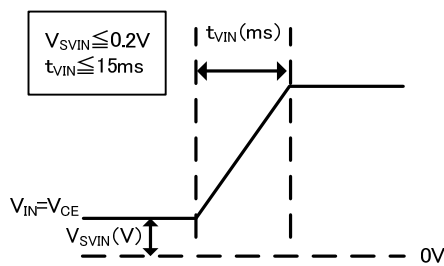

Figure 1. (Recommended for input wave form for  $V_{IN}=V_{CE}$ )
- As for power-on, when CE pin is used with connecting to  $V_{IN}$  pin,  $V_{IN}$ - $V_{CE}$  voltage should begin rising from below 2.0V. Rise time should be less than 15ms. (Please refer to Figure 1.)